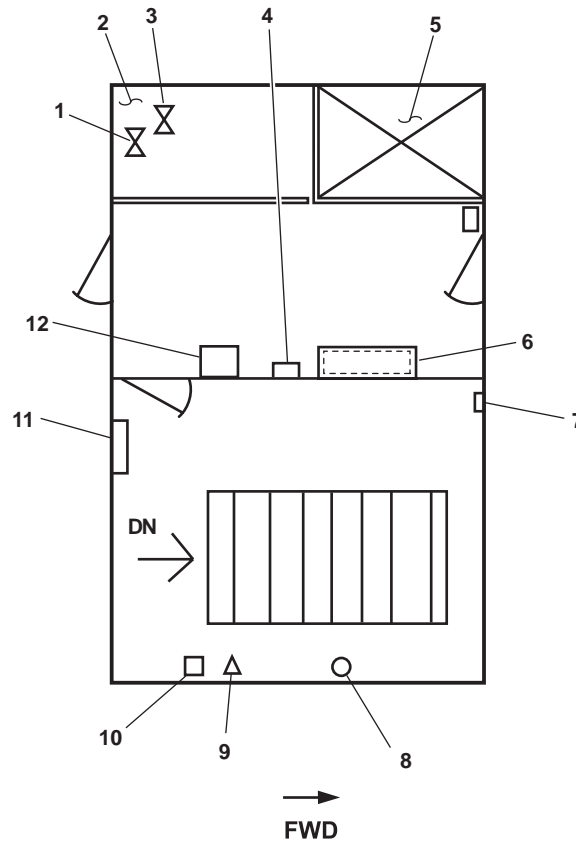

Figure 10. Vestibule
1. FM-55 (figure 10, item 1). Valve FM-55, F STA No. 4 supplies raw water to fire station 4.
2. VIDMAR storage cabinets (figure 10, item 2). The VIDMAR storage cabinets provide stowage for spare and repair parts.
3. Flow control valve (figure 10, item 3). The hydraulic key flow control valve controls the flow of hydraulic fluid to the deck crane.
4. Water Washdown Station (WWS) with HF sampling port (figure 10, item 4). This station permits raw water to flow from the fire main system to the engine room water wash down system. HF gas sampling can also be done at this station.
5. VIDMAR storage cabinets (figure 10, item 5). The VIDMAR storage cabinets provide stowage for spare and repair parts.
6. Fire and emergency stop panel (figure 10, item 6). FM-200 manual pull box (above), HVAC SYS EMER STOP, the FO XFER Pump EMER STOP (below), fire alarm pull station. The FM-20 manual pull box activates the engine room FM-200 system. The EMER STOP boxes shut OFF fuel oil transfer pumps 1 and 2. The HVAC SYS EMER STOP shuts OFF the AMS 1 and 2 supply fans, the engine room exhaust, and supply fans. The fire alarm pull station activates the fire alarm when pulled.
7. AMS 2 watertight door pump and reservoir system (figure 10, item 8). This system is used to OPEN and CLOSE the AMS 2 watertight door.
8. Fire extinguisher (figure 10, item 9). Portable fire extinguisher used to extinguish small fires on the main deck.
9. Fire axe (figure 10, item 10). Used to aid crew in gaining immediate access to a locked or enclosed area in the case of fire.
10. Fire alarm pull station (figure 10, item 11). Pulling the handle of the fire alarm pull station activates the fire alarm system.
11. FM-200 manual pull box (figure 10, item 12). The FM-200 manual box provides a connection to the FM-200 fire activation system in the engine room.
12. Tow machinery control panel (figure 10, item 7). The tow machinery control panel houses the logic control and circuitry connections for the tow machines.